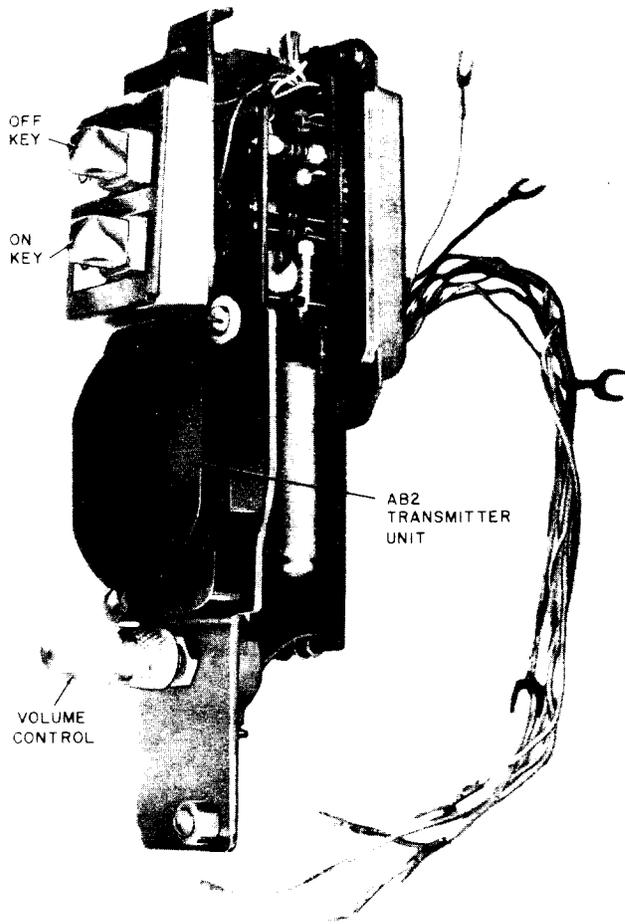
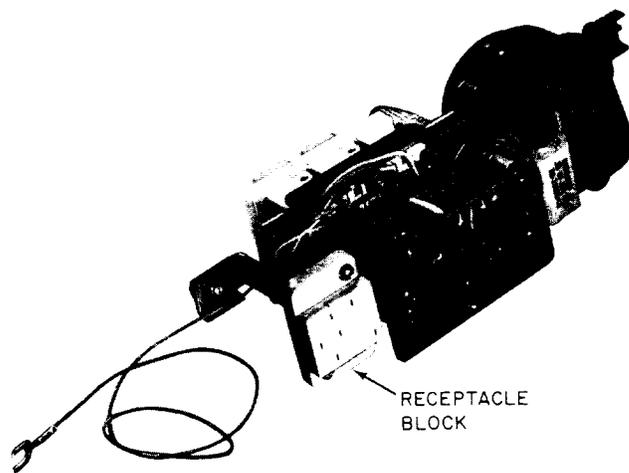

Fig. 22—667-Type Transmitter
Fig. 23—679A Transmitter
**2.36** Telephone sets that are intended for use with 3-type (MD) speakerphone can be modified by installing a 667-type (MD) transmitter (Fig. 22) for early production sets or a 679A (MD) transmitter (Fig. 23) for current production sets, and replacing the 8R dial with an 8CA dial on rotary dial sets.♦